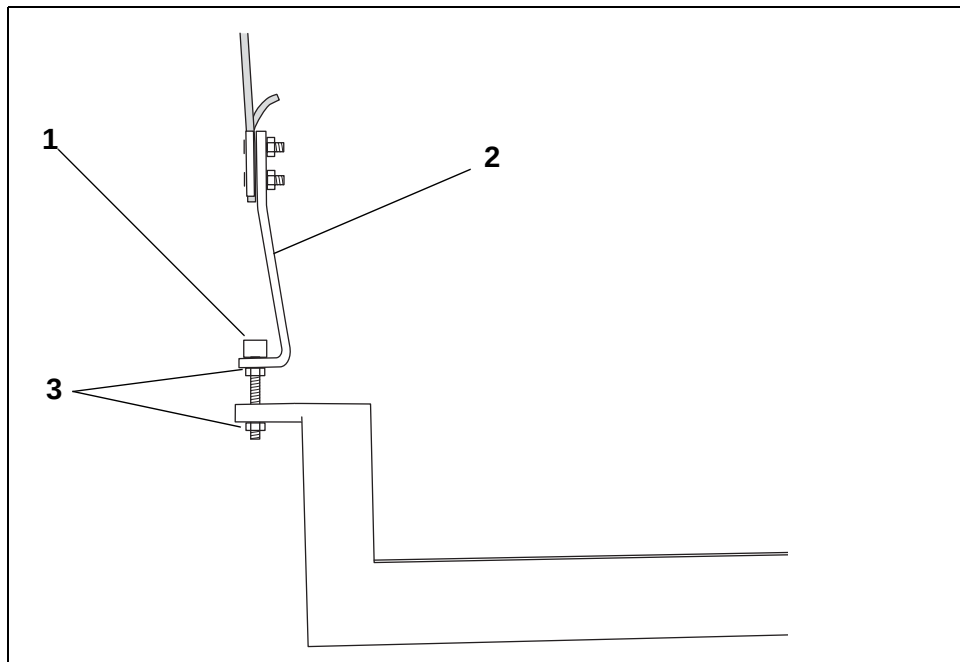
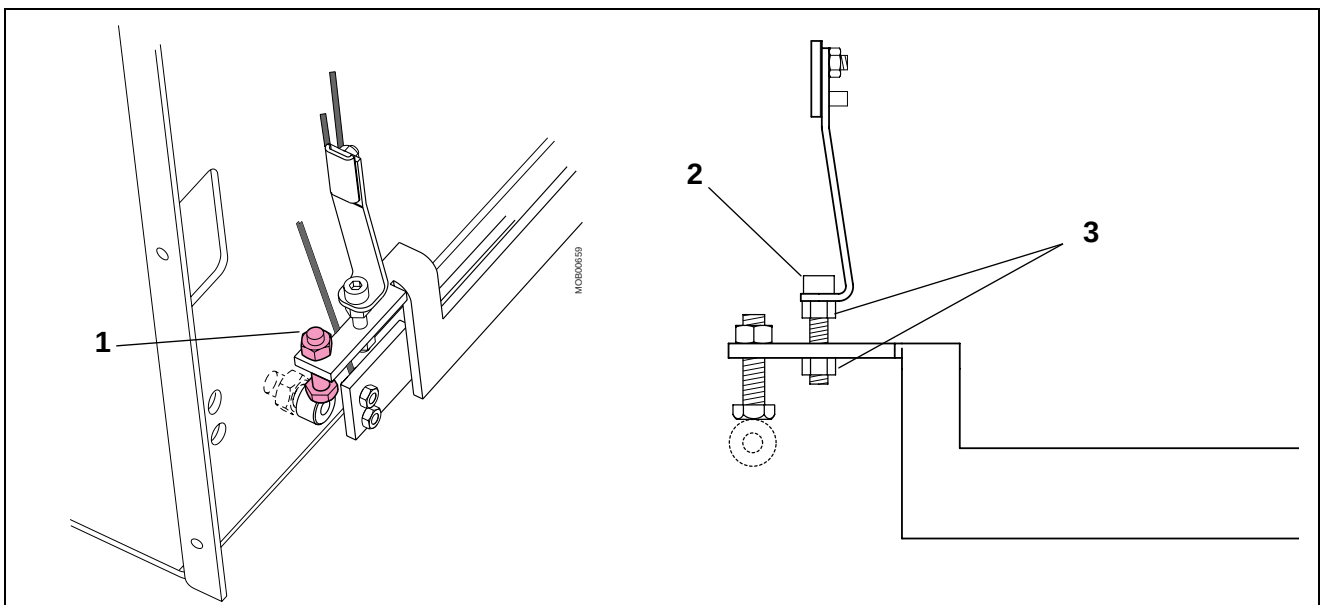

Fig. 24
Fig. 25
- Tighten the adjusting screw with the brake released (pos. 1 / Fig. 24) until the required brake force is obtained.
- After adjustments, make sure the brake wire link is oriented according to pos. 2 / Fig. 24. Lock its position using the nuts (pos. 3 / Fig. 24).
- Adjust the screw (pos 1 / Fig. 25) so that the arm can fall back just enough to release the brake. Lock its position with the nut.
- Tighten the adjusting screw with the brake released (pos. 2 / Fig. 25) until the required brake force is obtained.
- After adjustments, make sure the brake wire link is oriented according to pos. 2 / Fig. 24. Lock its position using the nuts (pos. 3 / Fig. 25).